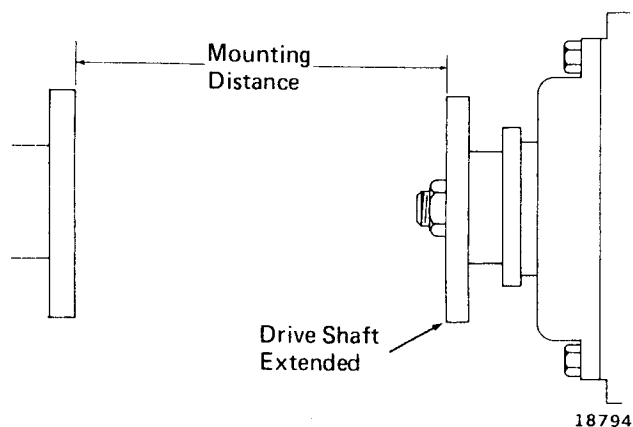

Fig. 9 - Generator Blower Coupling Measurement
2. Establish the mounting distance of 524.7 mm \pm 0.8 (20-21/32" \pm 1/32") between the coupling flanges of the drive assembly and the generator blower, Fig. 9.